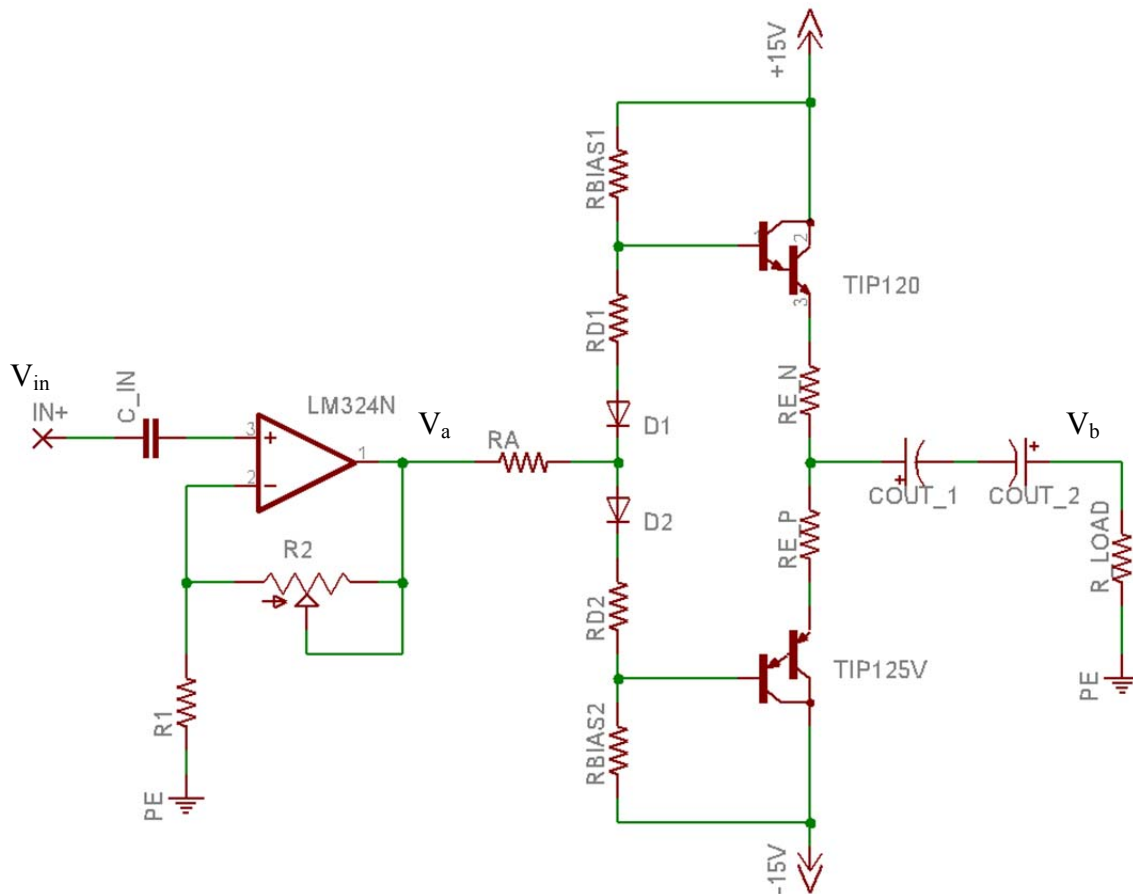

Figure 5 Class AB audio amplifier operating open-loop
Figure 5 shows the case of the output amplifier biased in Class AB. The voltage drop across diodes D1 and D2 and across resistors RD1 and RD2 provides the required bias voltage. This configuration operates open-loop, but the crossover distortion is reduced by the Class AB operation.
1. Perform text-based SPICE simulation of the three circuits shown in Fig 3-5. Use the following devices from the library eval.lib: a Q2N6059 transistor for the NPN Darlington, a Q2N6052 transistor for the PNP Darlington, and a D1N914 for the biasing diodes. Use a  $200\text{mV}_{pp}$  sinusoidal voltage source for  $V_{in}$ . Design the resistors  $R_1$  and  $R_2$  to yield  $5\text{V}_{pp}$  at the output of the OPAMP. For the class AB amplifier of Fig. 5 design the resistors  $R_{BIAS1}$ ,  $R_{BIAS2}$ ,  $R_{D1}$  and  $R_{D2}$  used in the bias network to yield  $I_{bias} = 10\text{mA}$  and  $V_{bias} = 1\text{V}$  assuming the voltage drop across the diodes is equal to  $0.6\text{V}$  at  $10\text{mA}$ .
8. Modify the circuit as shown in Figure 5. Remove the voltage follower from the opamp feedback loop. Add a diode based biasing circuit to the emitter follower. Use the biasing resistors you calculated in the pre-lab assignment and used in your simulations.